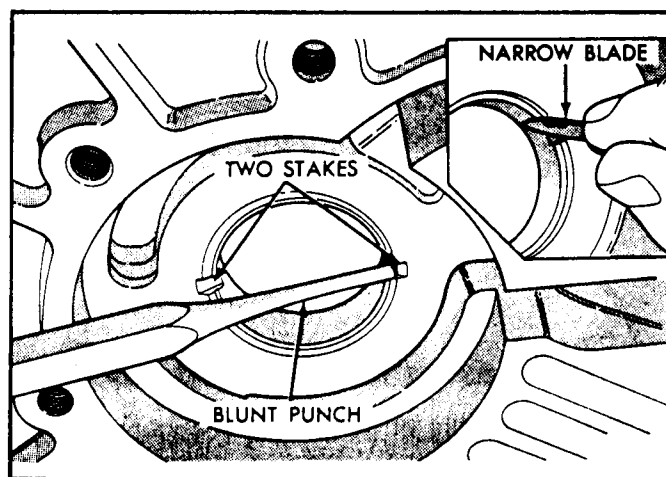

Figure 46
5. Stake the new pump bushing in 2 places with a blunt punch, as shown in Figure 46, and remove burrs from stake points with a small knife blade (Figure 46).